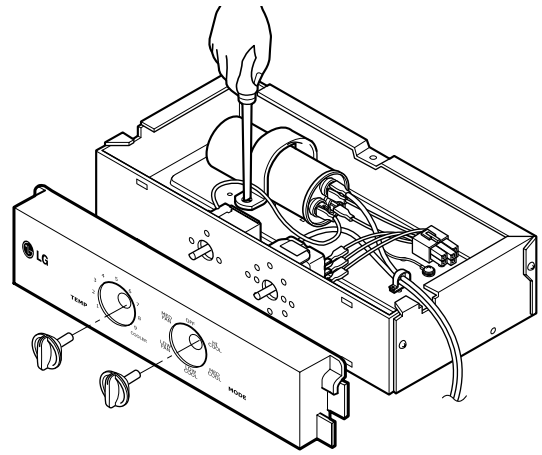

Figure 11
4. Re-install the components by referring to the removal procedure, above. (See Figure 11)